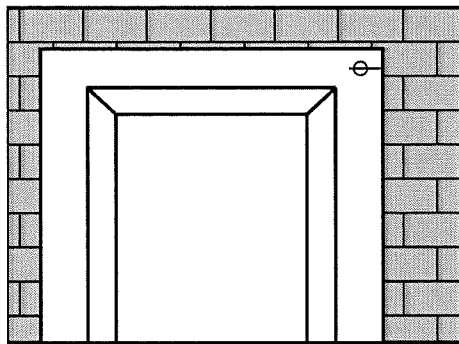

Figure 3
4. When mounting on brick, stone or other masonry products, locate the screw holes so they enter mortar joints. Drill holes to accept suitable masonry anchors and attach shutter (see Figure 3)